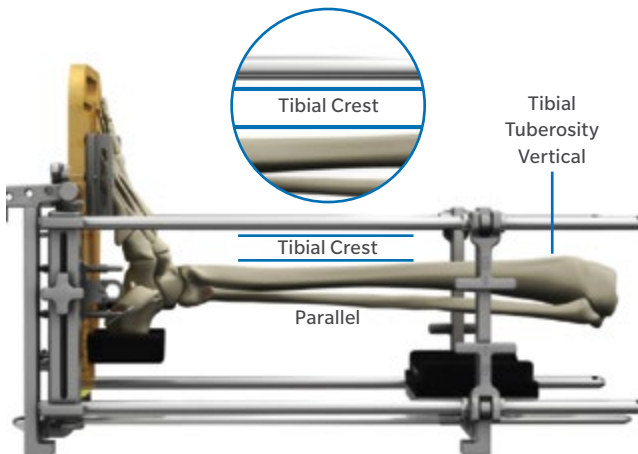

Fig. 13 Center and align joint in sagittal plane.
- Add or remove Calf Support Blocks so the tibial crest is parallel to the longitudinal Frame Rods (Fig. 13).